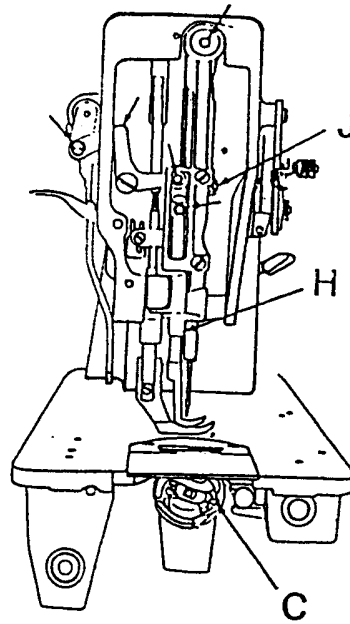
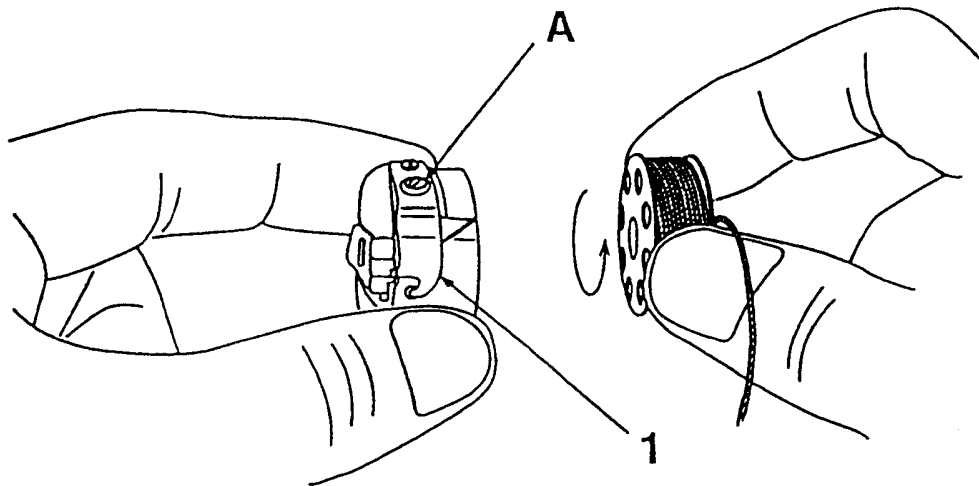

Fig.4
Fig.8
2. Pass left hand under table into opening on the drip pan. With left thumb and index finger, open the hinged latch (C, Fig.4). And pull bobbin case and bobbin from rotary hook. While the latch is held open, the bobbin will be retained in the bobbin case. Release of the latch and turning of the open side of the bobbin case downward will cause the bobbin to drop out.
3. Hold the bobbin between the thumb and forefinger of your right hand and pull out a length of about 5cm of thread. Holding the bobbin case in your left hand turn the open side up and place the threaded bobbin into it. (Fig.8)
4. With the right hand guide the thread into the slot in the edge of the bobbin case. Then pull the thread to the left, under tension spring (1, Fig.8) and into the delivery eye. In order to keep the bobbin from dropping out of the case when it is turned with the open side down, always keep the hinged latch (C, Fig.4) at the front of the bobbin case open.
5. Take the threaded bobbin case by the latch (C, Fig.4) and place it on the center stud of the bobbin case holder. Release latch and press bobbin case on to center stud until the latch catches the undercut thereon with a click that can be heard. Permit about 5cm of bobbin thread to hang down freely. Be sure to push the slide plate to the right before starting to sew.
### 2. Tension of the Lower (Bobbin) thread: (Fig.8)
The lower (bobbin) thread tension is controlled by the larger screw (A, Fig.8) near the end of the spring at the outside of the bobbin case. Turning this screw to the right (clockwise) will increase the thread tension, while turning it to the left (counter-clockwise) will decrease it.
2. Holding the bottom of the needle bar rock frame (H; Fig.4), move it as may be required to get the correct position to the feeder.